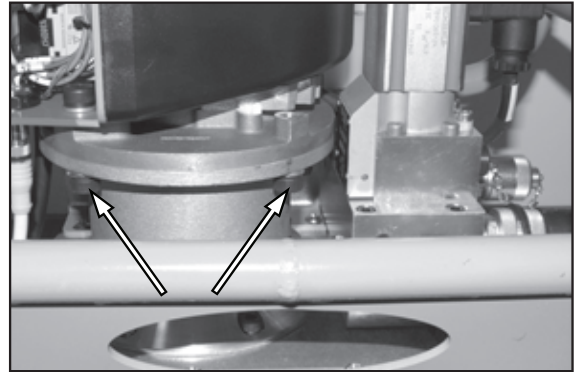

Figure 27.
4. See Figure 27. Remove the four motor bolts. (Two on each side).